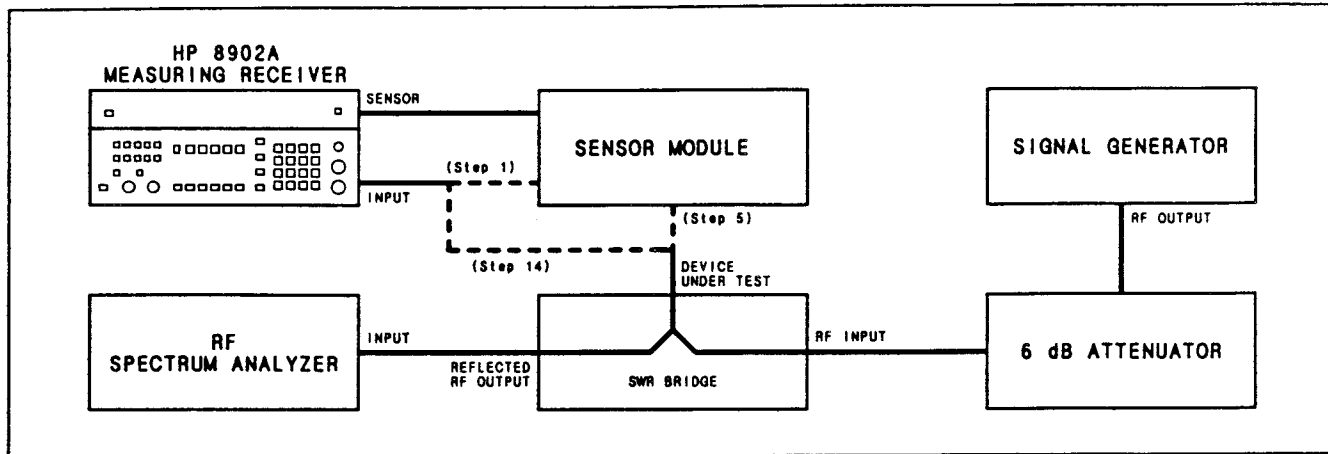

Figure 4-7. SWR Performance Test Setup
1. Connect the equipment as shown in Figure 4-7. Connect the 6 dB attenuator directly to the RF input of the SWR bridge. Do not connect anything to the device-under-test input of the SWR bridge at this time.
5. On the Measuring Receiver, press the blue key then press **INSTR PRESET** (the **AUTOMATIC OPERATION** key) to preset the instrument. Press **RF POWER**. Connect the sensor module to the SWR bridge. (See Figure 4-7.)
14. Disconnect the sensor module from the SWR bridge and the Measuring Receiver's input. Connect the SWR bridge's RF input directly to the Measuring Receiver's INPUT connector. (See Figure 4-7.)